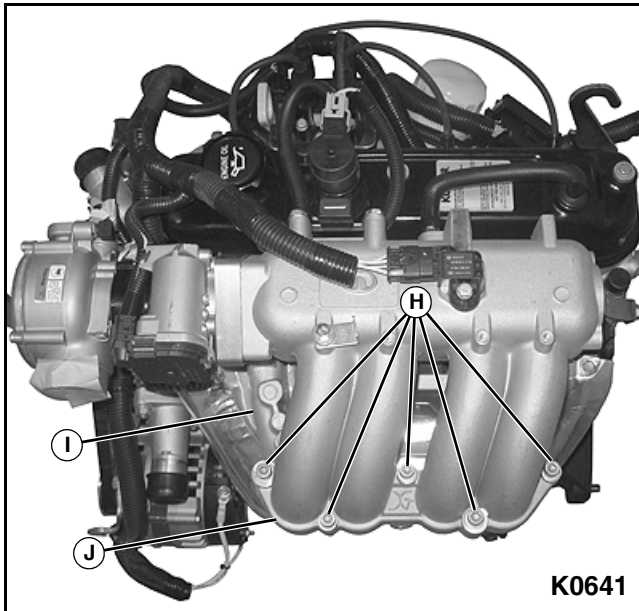

Figure 3-67
5. Remove five bolts, flat washers, and lock washers (H) securing upper intake (I) to lower intake manifold (J). **See Figure 3-67.**